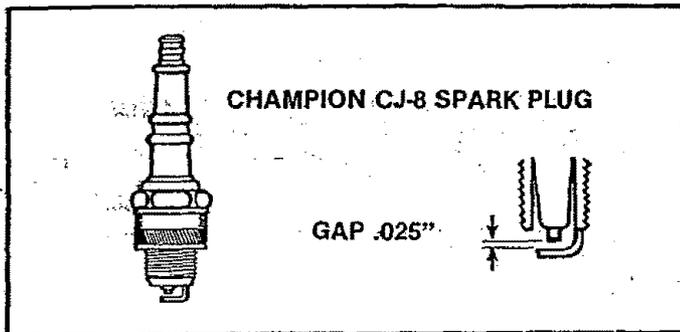

Figure 48
- Set the gap between the electrodes to .025 using a wire or flat gauge. Figure 48.